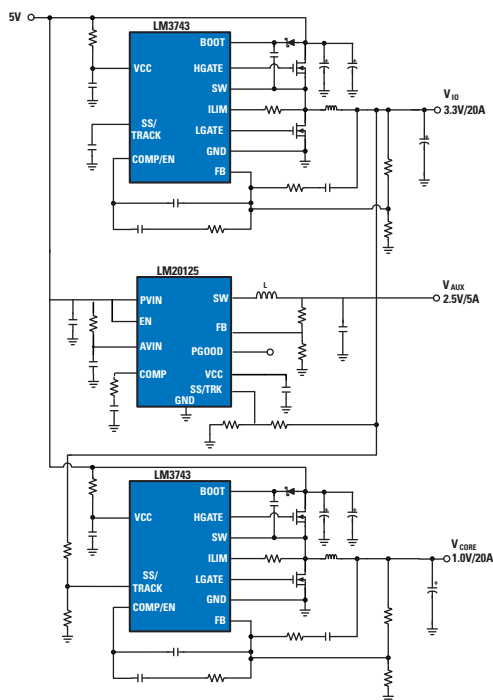

**Figure 7. Externally-Sequenced Single Chip FPGA Power Supply**
*Figure 7* features the LM26480 PMIC to provide the CORE, IO and AUX voltages from a single device. This device integrates dual switching regulators with a current capability of up to 1.5A each and dual LDOs with a current capability of up to 300 mA each. This high degree of integration makes the LM26480 an ideal solution for use with the Cyclone and Spartan families of FPGAs. This solution provides a monotonic startup with internal soft-start to limit inrush startup currents. Sequencing is performed with the LM3880. The startup sequence will be the CORE followed by the IO, and then by the AUX rails. The LM3880 features an integrated precision enable circuit that allows the user to set the turn on voltage with two external resistors.